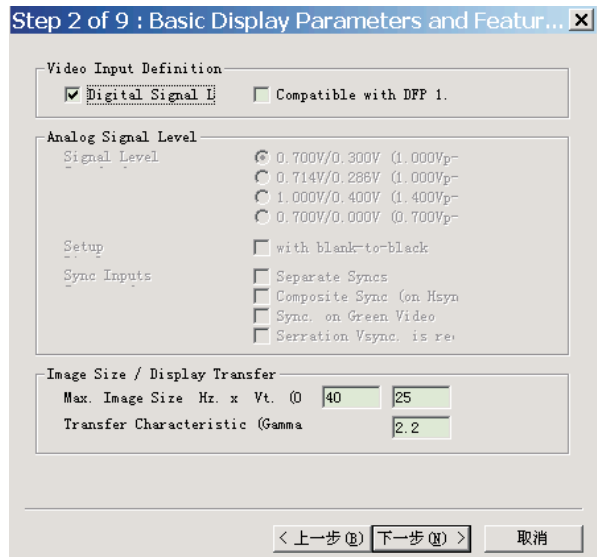

Fig. 32
1. Click Next , bring up Fig. 32.